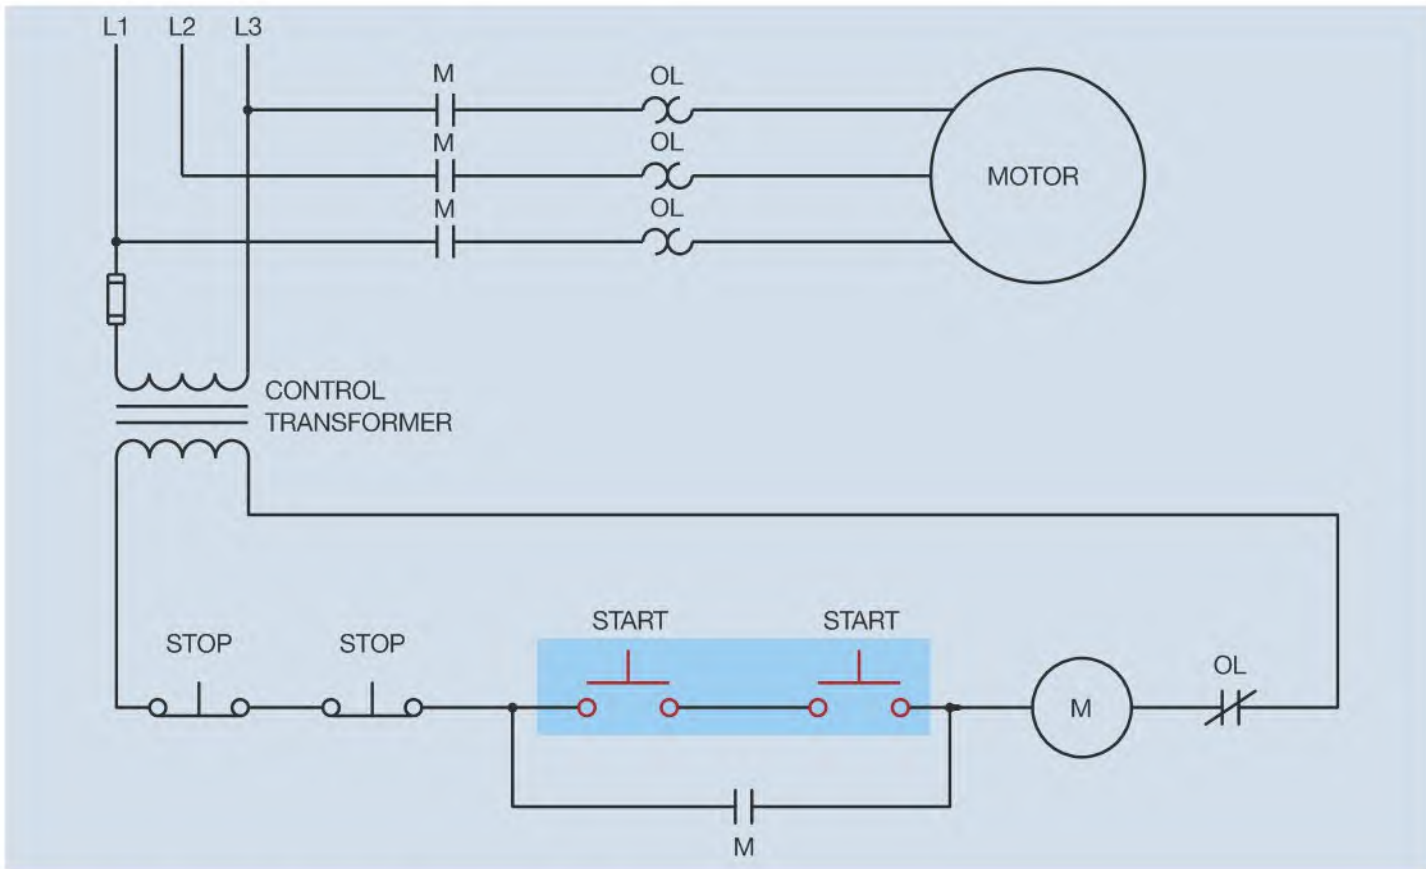
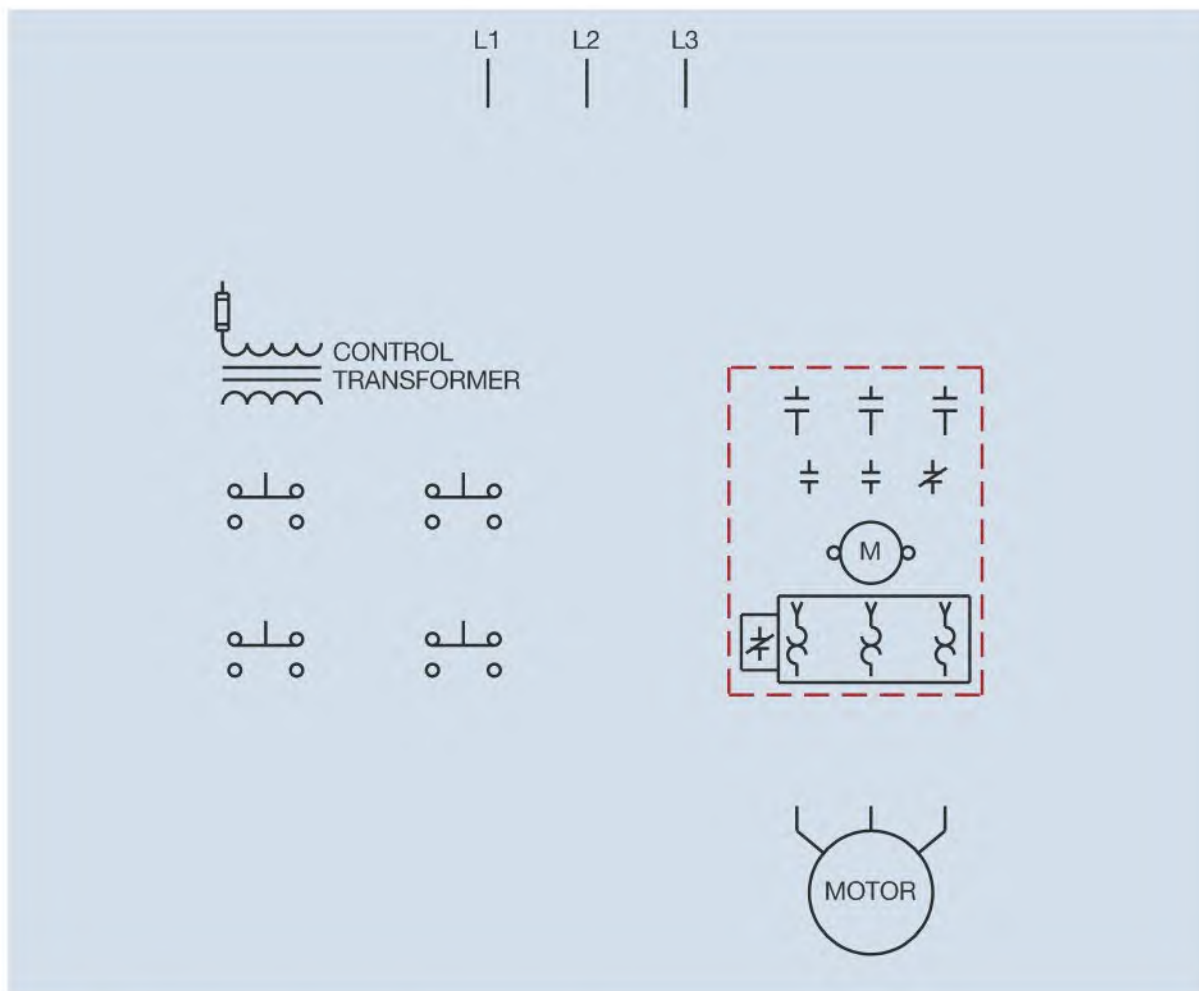

Figure 8-7 The START buttons are connected in series.
Figure 8-8 Add wire numbers to these components.
4. What would be the action of the circuit if both START buttons were to be connected in series as shown in Figure 8-7?
5. Following the procedure discussed in Chapter 7, place wire numbers on the schematic in Figure 8-7. Place corresponding wire numbers on the components shown in Figure 8-8.